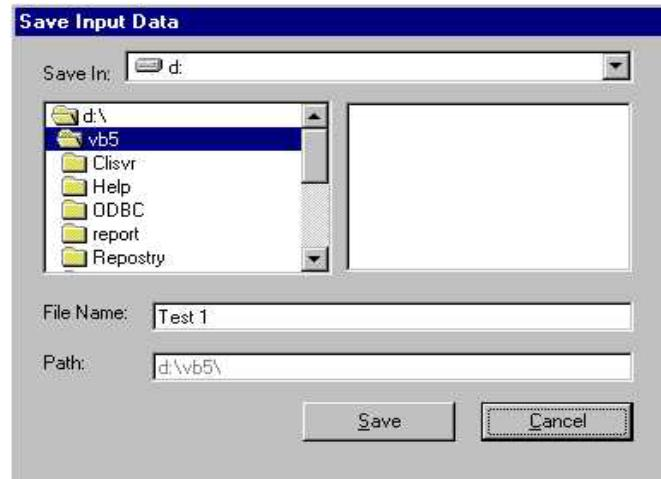

Figure 3.17. Save Input Data
3. Select the directory where you would like this information to be saved by double-clicking it (Figure 3.17), type the file name and click Save. The file is saved with an “.inp” extension.